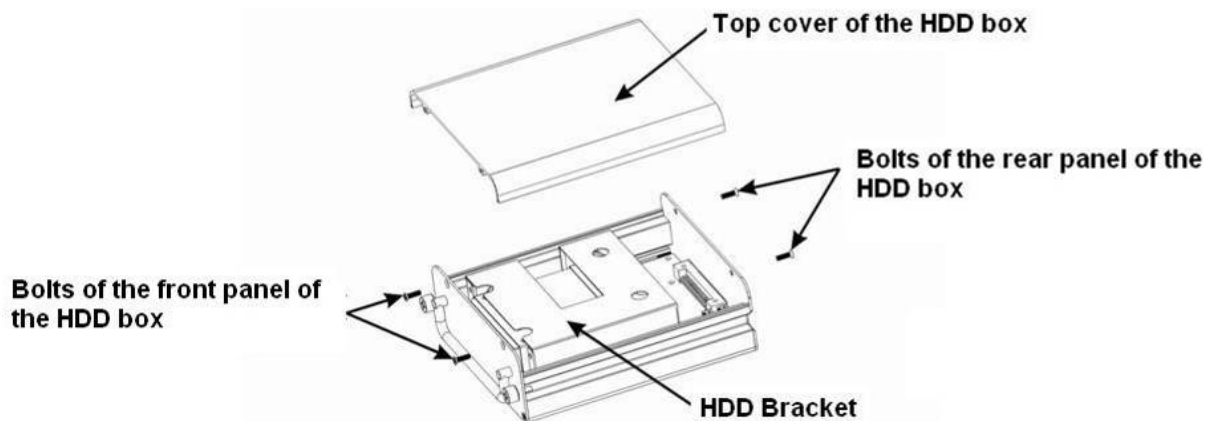

Figure 3-6
6) After you installed the HDD bracket. Please refer to Figure 3-6 to put the HDD box top cover back and secure the bolts of the front panel and rear panel of the HDD box. Now the HDD installation is complete.